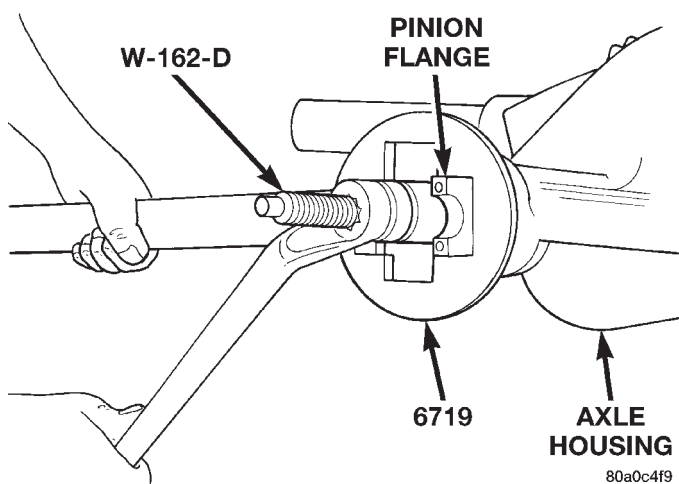

Fig. 36 Pinion Yoke Installation—Typical
(7) Install yoke with Installer W-162D and Wrench 6719 (Fig. 36).
(8) Install the yoke washer and a new nut on the pinion gear. Tighten the nut to 298 N·m (220 ft. lbs.) minimum. **Do not over-tighten.** Maximum torque is 380 N·m (280 ft. lbs.).